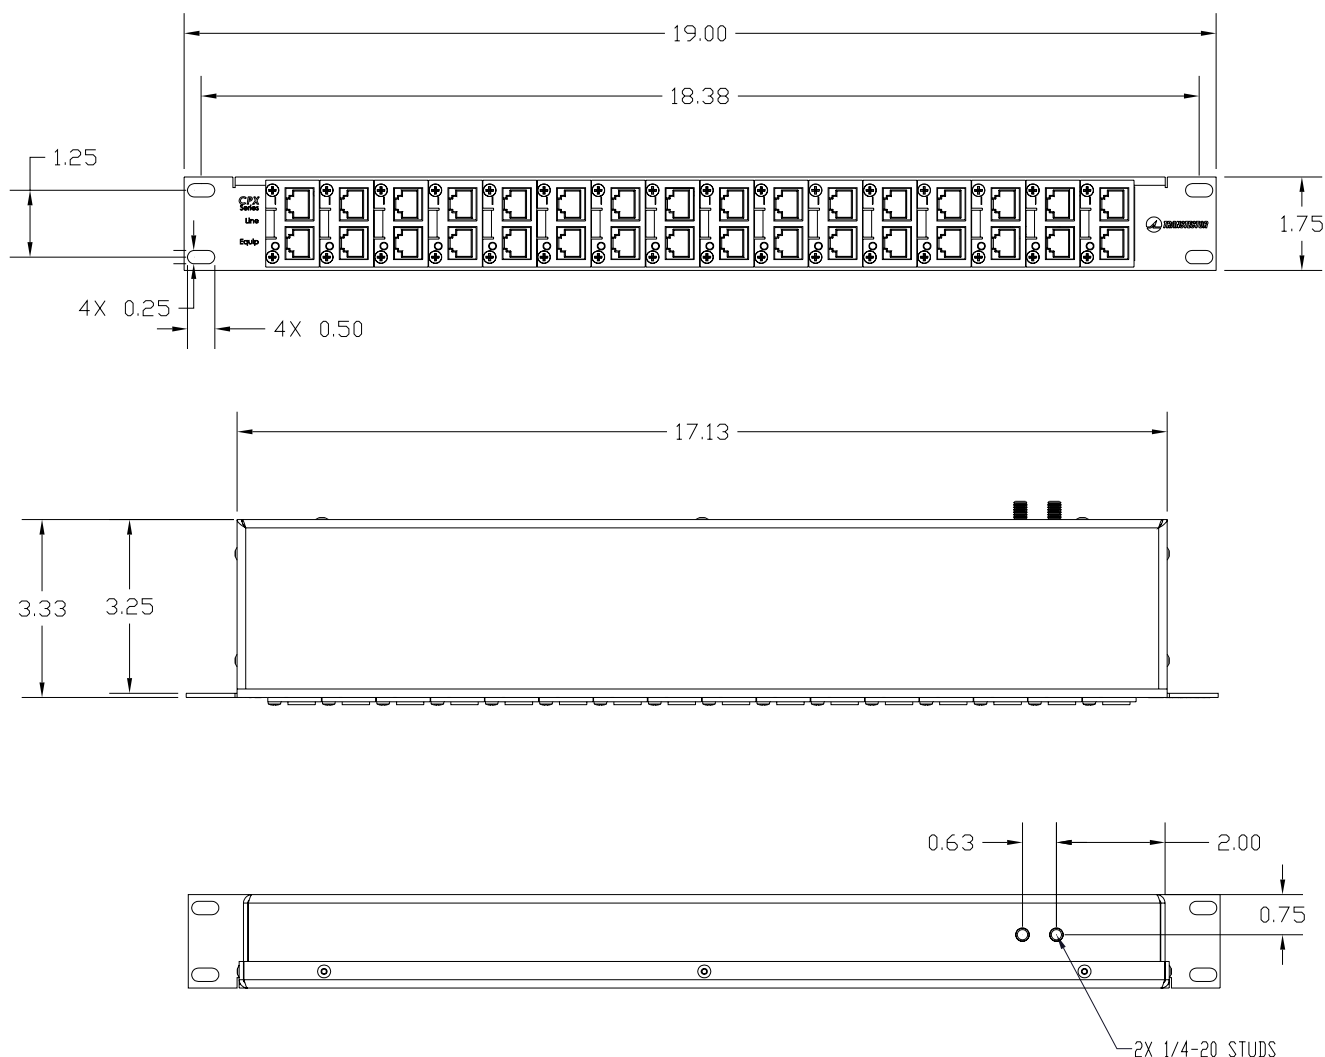

Figure 1: CPX Series Mechanical Outline Drawing
6. **INSTALLATION:** The CPX SERIES is intended to be installed per article 800 of the NEC indoors, using one rack space within a 19" RS-310-C standard rack. Attach the CPX SERIES into the 19" rack using the four each 10-32 screws at each corner of the chassis front face (hardware provided). A mechanical outline drawing is shown in Figure 1. **Warning!!** The dedicated dual ground studs on the rear of the unit must be connected to the nearest master ground bar for proper operation. Refer to Transtector installation instruction document 1200-201 for installation, wiring & replacement of the individual protection modules; an outline drawing for the modules is given in Figure 2.